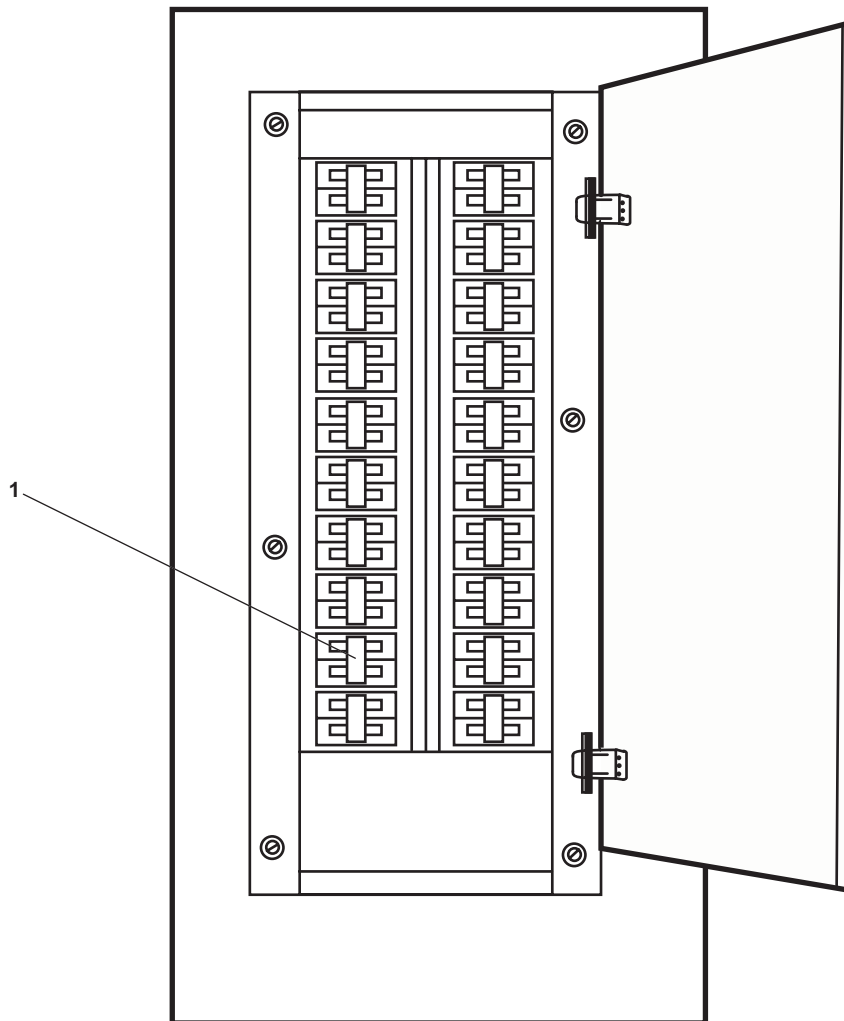

Figure 7. 120V Emergency Distribution Panel No. 1
3. At 120V emergency distribution panel No. 1, set to OFF the RACOR FILTER circuit breaker (figure 7, item 1).